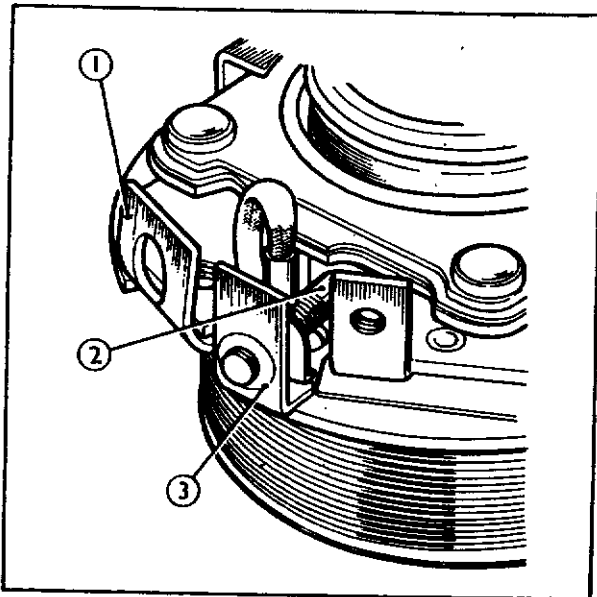

Fig. 72 – Solenoid Terminal and Insulators
1. Fit the protection collar (special Service Tool No. 6244-6) over the end of the pinion sleeve and insert the pinion assembly into the drive-end shield, ensuring that the dust scraper ring (45) is not damaged in the process.
3. Place the solenoid terminal, solenoid terminal insulator, and main terminal insulator on the solenoid assembly as shown in Fig. 72.
4. Insert the solenoid assembly into the drive endshield and fasten it in position with spring washers and self-tapping screws (31). Drop the anodized metal strip on the inside face of the main terminal insulator.
5. Push the solenoid terminal (21) into its hole, and replace bush (19), spring washer and nut (20).